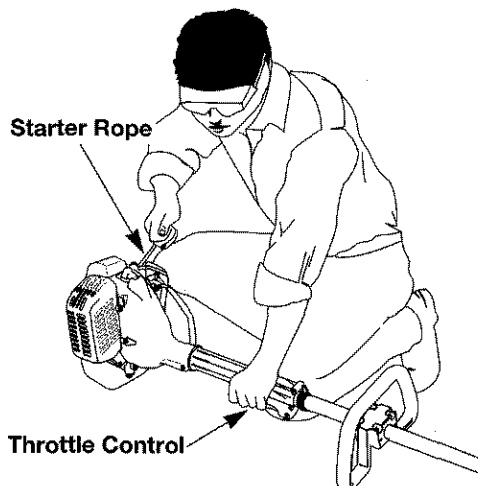

Fig. 7
6. With the unit in the starting position pull the starter rope briskly until the engine sounds as though it wants to run (normally 2 to 5 pulls) (Fig. 7).
8. Pull the starter rope briskly 1 to 3 times to start the engine (Fig. 7).
1. Release your hand from the throttle control (Fig. 7). Allow the engine to cool down by idling.